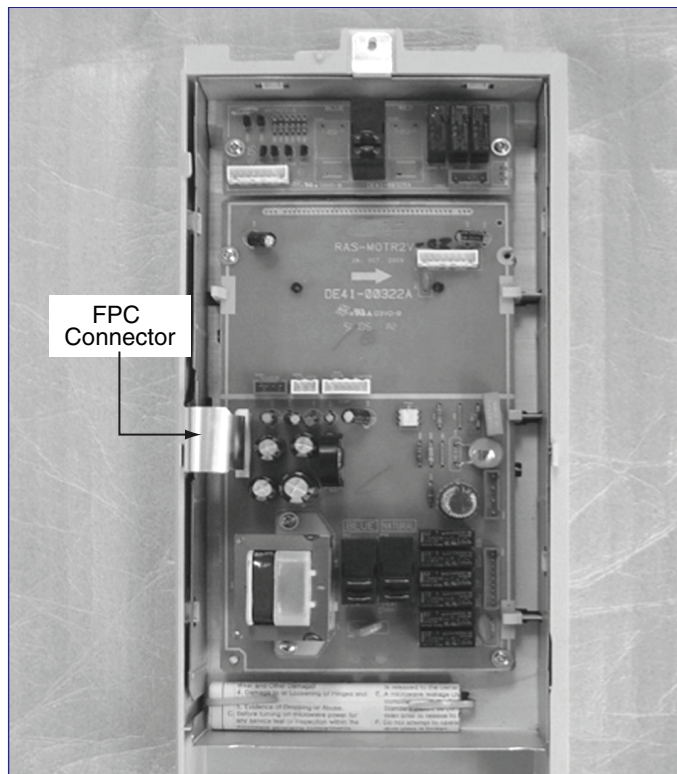

Figure 4-26. FPC Connector
1. Pull the lever end of the plastic fastener and remove the Flexible Printed Circuit (FPC) of membrane panel. (See Figure 4-26)